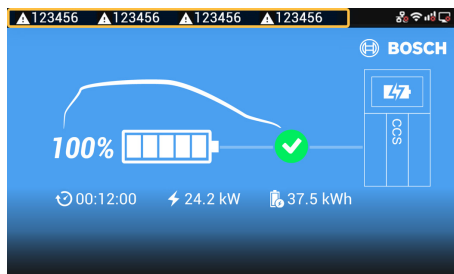

Fig. 19: Page showing list of fault codes after charge is complete
- ➔ When charging is complete, the EV 3000 will automatically: stop charging, display charging summary page (see Fig. 19), and unlock the charging connector.